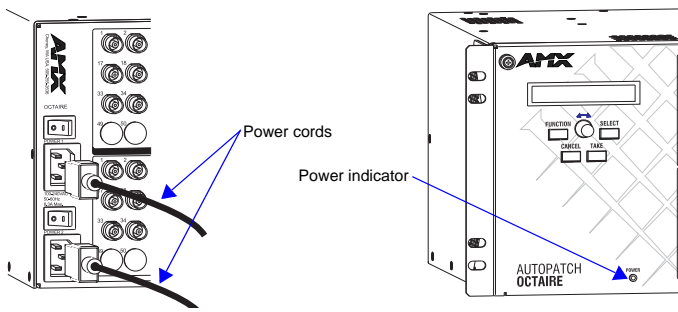

FIG. 6 Plug power cords into power receptacles
1. Attach power cords (FIG. 6, top of next page) and plug into power source (turn on power source if necessary). Press the “I” side of both power switches on the enclosure(s).